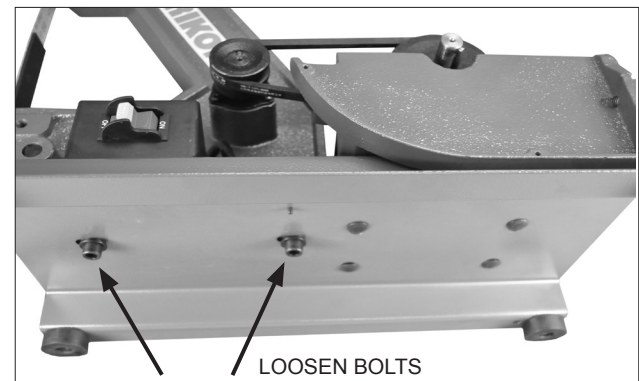

FIG. 29
2. Tilt the sander back, and slightly loosen the two hex head Screws (#7) so that the sanding Frame (#64) can be moved a bit forward or backwards to tension the V-belt. FIG. 29.